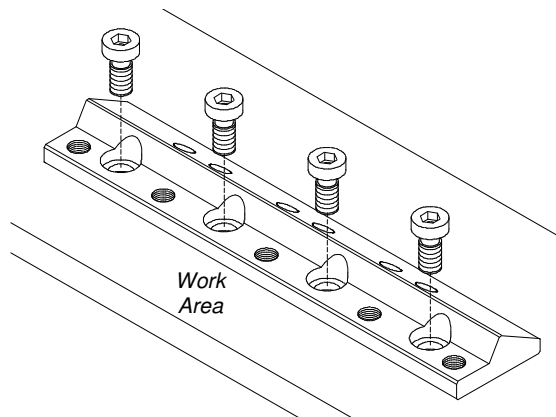

Figure 2
STEP 2. ATTACHING THE RAIL TO THE MACHINE. Place the rail on the machine table as shown in Fig. 2 with the slanted side away from the work area.
STEP 3. (A). Apply ample silicone grease to the threads of the special low head cap screws. The grease will eliminate the screws from seizing. **(B).** Insert the screws into the counter-bored holes in the rail and into the threads in the table. **(C).** Using the hex wrench, lightly snug down the two end screws into the table.